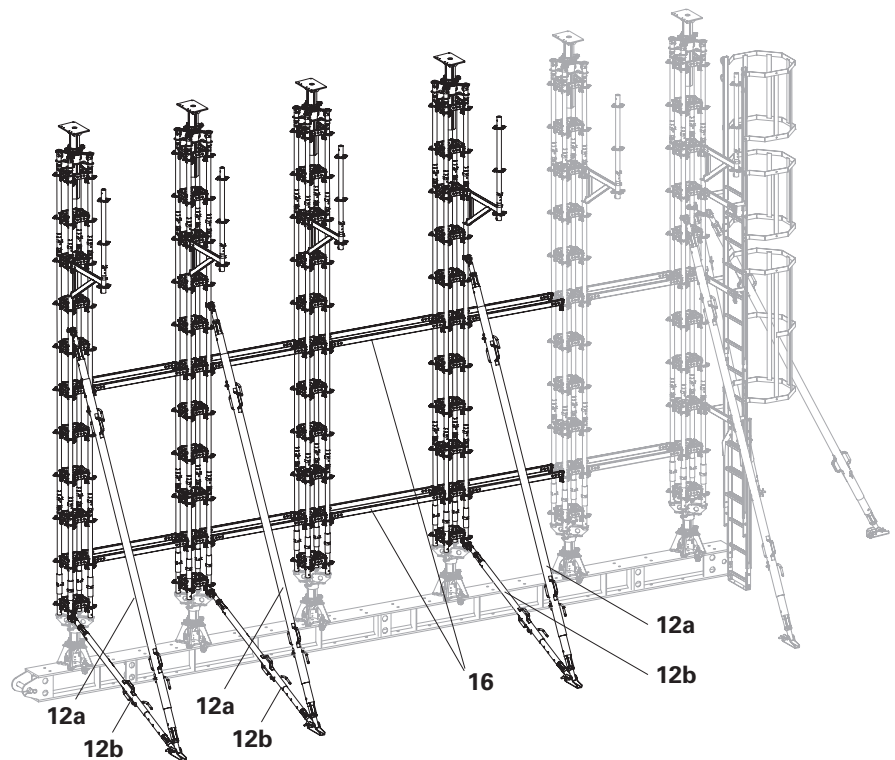

Fig. A6.16
5. Always fit the final Heavy-Duty Prop HD in the main beam frame with push-pull props. (Fig. A6.16)